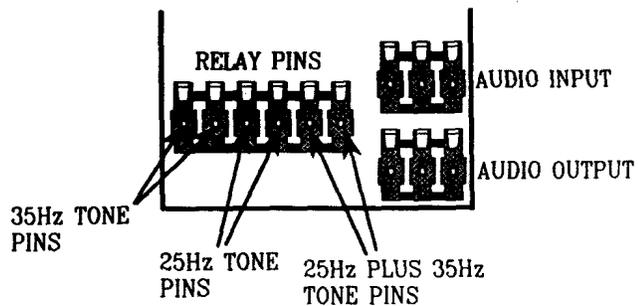

FIGURE 8.
**Operation:** Audio output from your 321 or 322 audio demod board must be adjusted for Zero Line Level peak program level loaded into 600 ohms. Audio is connected between the demod board output and the 381 audio input on the back panel (see Figure 8). Program Audio output to your system is picked up at the Audio Out of the 381. Output level adjustment from the 300 system is done with the controls on the 381 board.